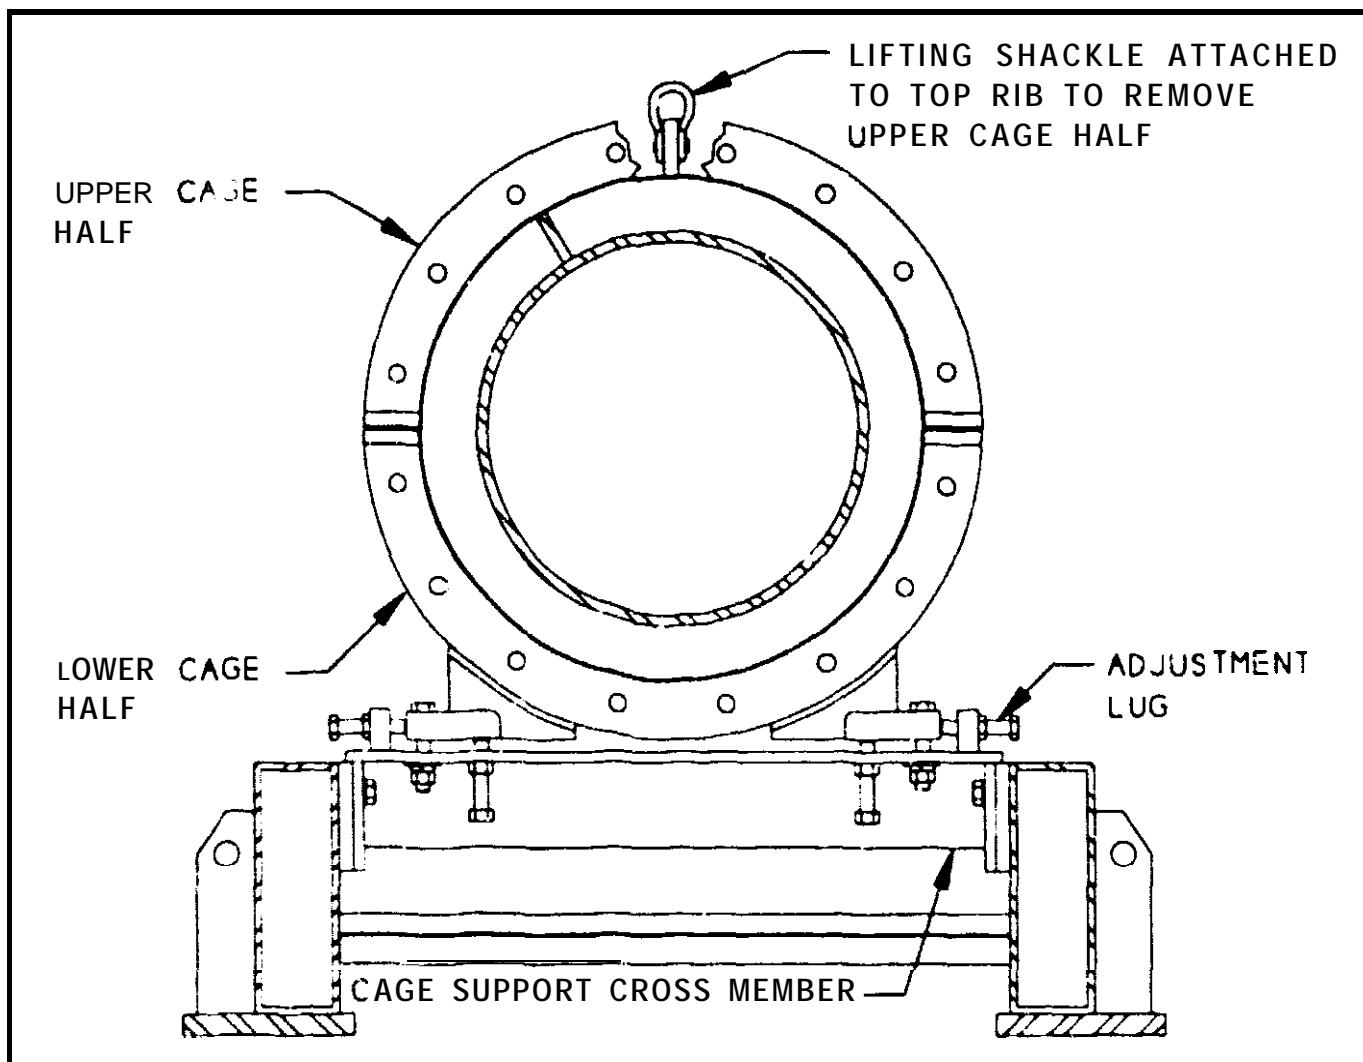

Figure 5.7-1
As shown in Figure 5.7-1, the cages are split horizontally along the axis of the press shaft. The two halves of the cages are bolted together at the split flange. Shims in the split flange provide a means of adjusting the clearance between the screens and press shaft fluting. When the clearance becomes too great due to worn fluting, it can be reduced by removing some of the shims. Adjustment screws — located on the cage mounting cross members of the underframe — provide alignment of the cage assemblies to the press shaft. Cage alignment and shimming procedures are described in the "Service Instructions" chapter of this manual.
6. Attach lifting shackles through the hooks provided in the longitudinal top rib of the cage (see Figure 5.7-1). Connect a suitable lifting device to the shackles. ~~Each cage in the press is 875 pounds.~~ Remove the slack from the lifting device.
5. If the cage being removed is equipped with an adjustment lug (see Figures 5.7-1 and 3.7-2):